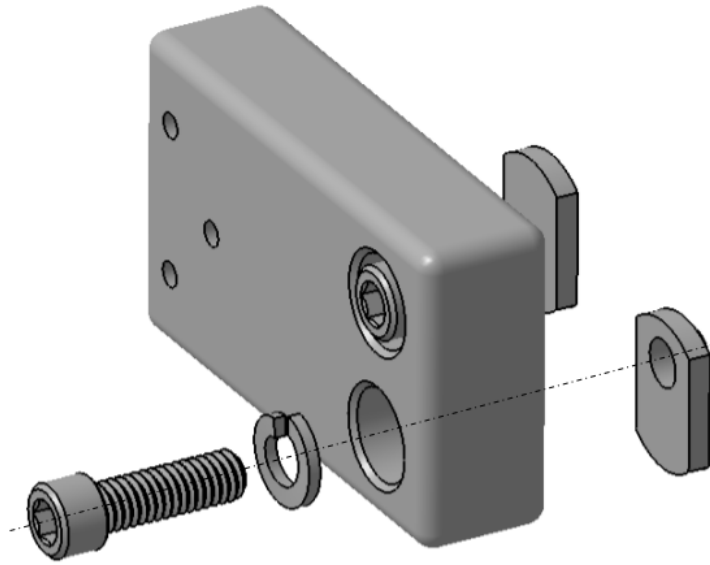

Fig. 4.18: Insert screws (#JYBC) through washers (#QTAS) to the T-nut (#YREC).
- ❑ Tighten all fastener screws with Allen key 3/16" (#TRHE).
- ❑ Use the two end-feed T-nuts 5/16"-18 (#YREC) to connect through the hole on the rectangular block (#LZWT) with two 5/16"-18 1" long screws (#JYBC) and two split lock washers 5/16" (#QTAS). Do not fully tighten the screws because you will need to slide the rectangular blocks into the slots later. Repeat for the second hole, as shown in Fig. 4.18.